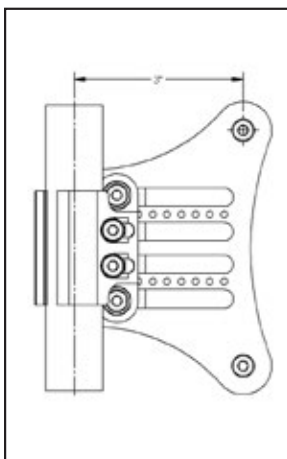

Fig. 2: Quickfit clamp in forward most position.
The configuration can be changed by orienting the Quickfit cane clamp forward, providing a forward mounting position. See figure 2 below.
- Install clamp as shown in *Fig. 2*